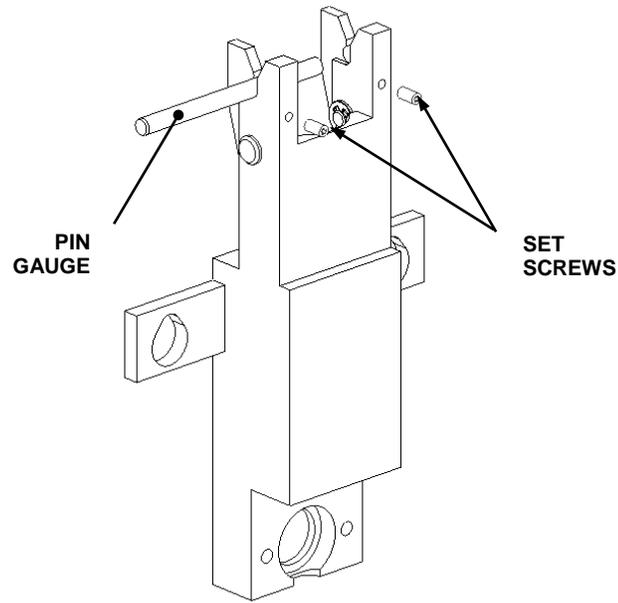

Figure 13-13: Assembling the Attachment Body
7. Fit two M2x4 Skt Set Screws into the Attachment body using Loctite 222 (Figure 13-13).